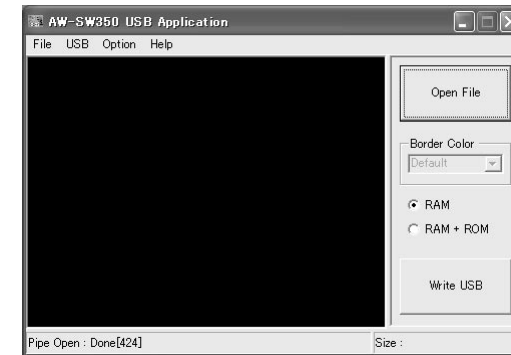

Fig.9 Application programme main screen
- 2** The main screen shown in Fig.9 appears when the application programme used with the USB image transfer programme for the AW-SW350 is started up.